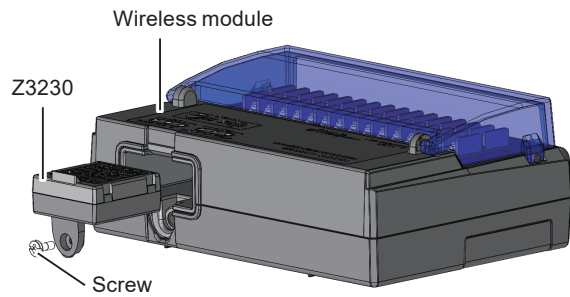

Fig. 5. Z3230 mounting mechanism.
2) *Connecting the Wireless LAN Adapter Z3230:* As illustrated in Fig. 5, a screw is used to connect the Z3230 to wireless modules (LR8530, LR8531, LR8532, LR8533, and LR8534).